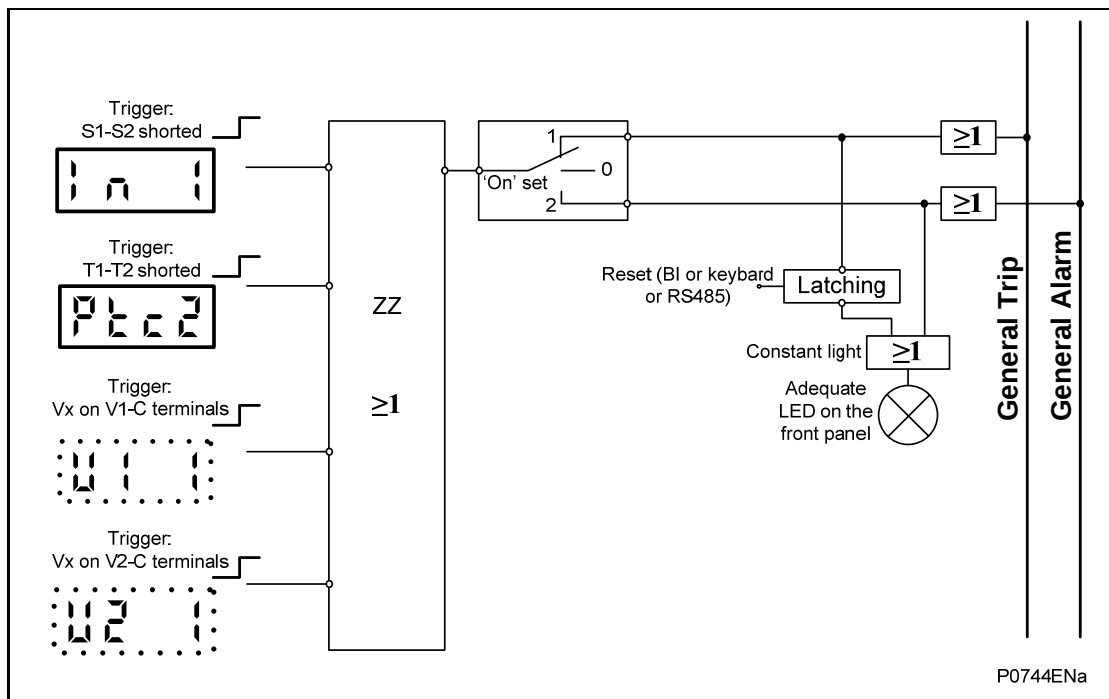

Figure 3: ZZ external protection logic diagram
- ZZ - this protection function is triggered by high state of appropriate programmed binary input. The logic diagram for ZZ external protection is shown in Figure 3